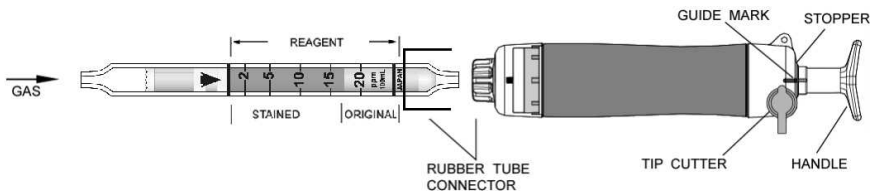

Fig.1
- ② Insert the detector tube into the aspirating pump securely as shown in Fig.1. (Arrow mark shall point to the pump.)
- ③ Align the guide marks on the shaft and stopper of the aspirating pump.
- ④ Pull the pump handle at a full stroke until it locks and wait for 1.5 minutes or until the completion of sampling is confirmed with the flow indicator of the pump. (See descriptions about the flow indicator in the instruction manual of the pump.)
- ⑤ On completion of sampling, read the scale at the maximum point of the stained layer.
- ⑥ When the concentration is below the scale range, 2 pump strokes can be used to determine concentrations of 1 to 10 ppm. At this point, turn the handle right or left by 1/4 (90°), push it toward the pump without removing the detector tube from the pump and then repeat step ③~④ once more.